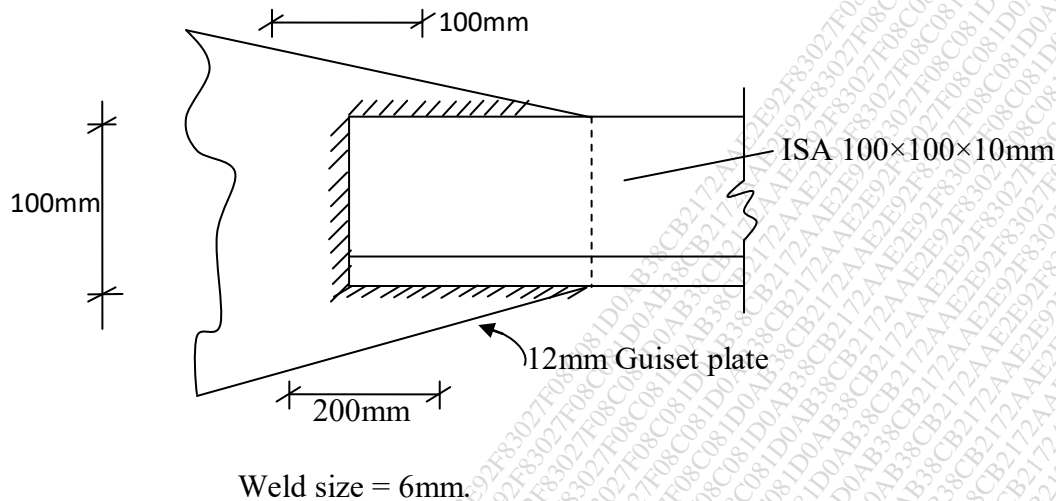

Figure 2
- Q.2 Determine the maximum load which can be applied to the fillet welds as shown in figure 2. Allowable shear stress in 108N/mm^2 .